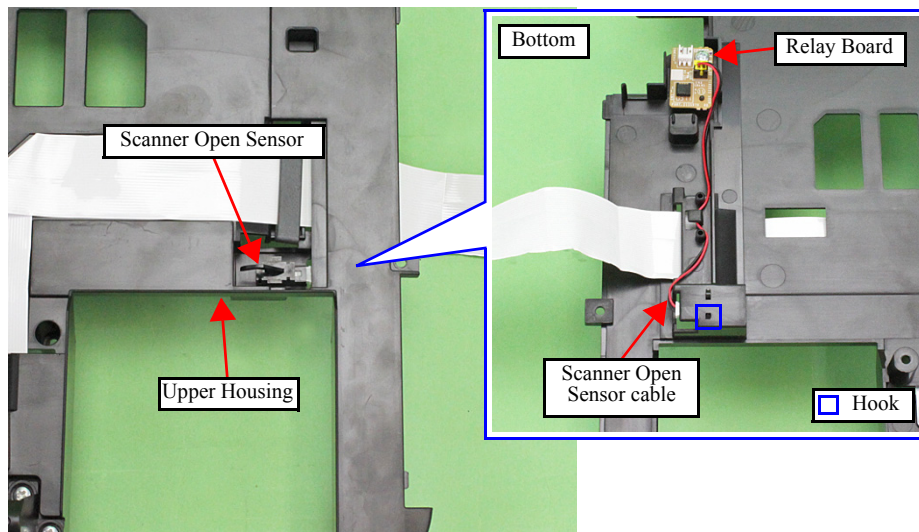

Figure 9-34. Removing the Scanner Open Sensor
1. Disconnect the Scanner Open Sensor cable from the connector on the Relay Board. (See Fig. 9-34.)